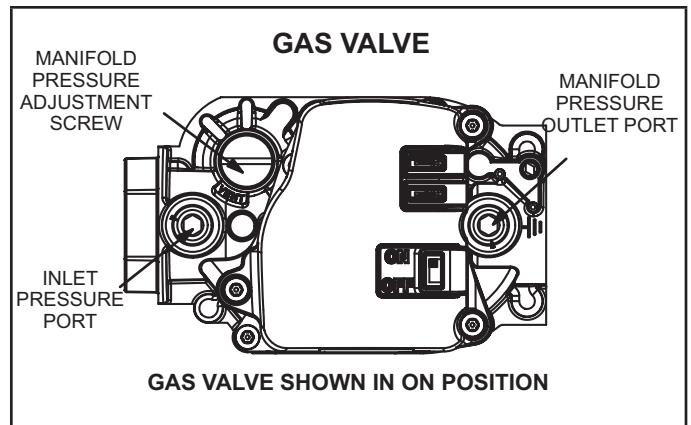

FIGURE 7
- 2 - Remove the access panel. Move the automatic gas valve switch to **OFF**. See figure 7.
- 6 - Move the switch on the gas valve to **OFF**. Do not force the switch. See figure 7.
- 7 - Wait five (5) minutes for any gas to clear out. If you then smell gas, **STOP!** Immediately call your gas supplier from a neighbor's phone. Follow the gas supplier's instructions. If you do not smell gas, go to the next step.
- 1 - Connect test gauge to manifold pressure tap (figure 7) on gas valve.
- 4 - If necessary, make adjustments. Figure 7 shows location of manifold adjustment screw.